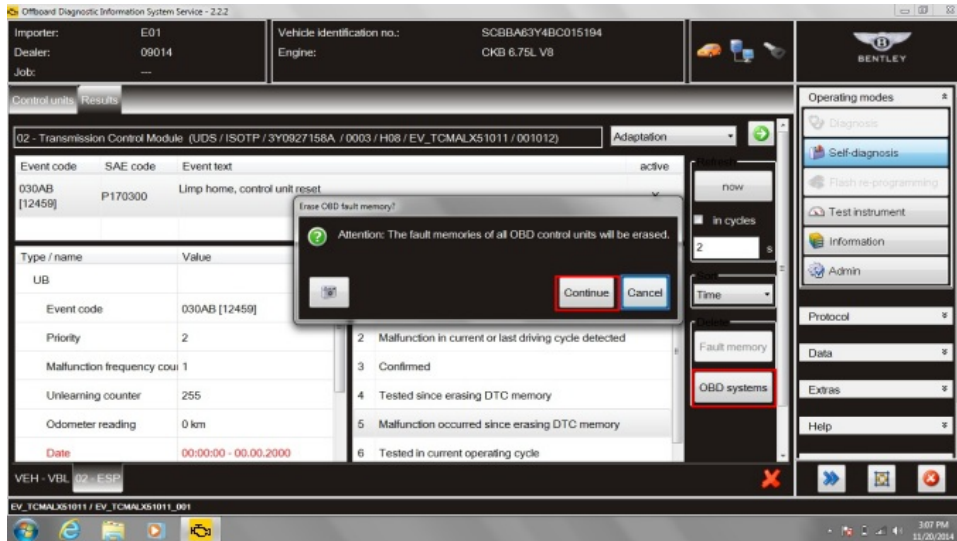

Figure 3
4. Within *Results* the code will be detailed. Select – *OBD systems* and *Continue* to erase the fault memory (see Figure 3)